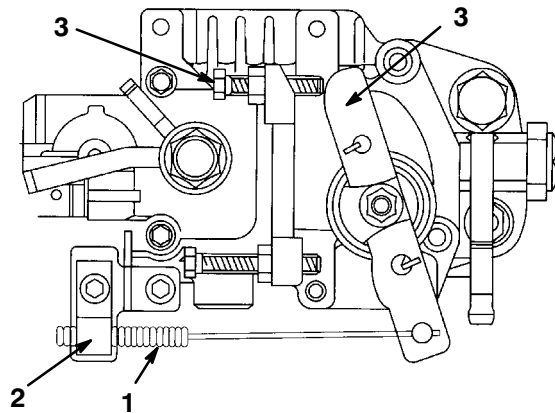

Figure 36
1. Move the remote throttle control lever to the SLOW position (Fig. 36).
2. Loosen the cable clamp screw securing the cable to the engine (Fig. 36).
3. Move the cable until the speed control lever contacts the idle speed screw (Fig. 36).
2. Loosen the lock nut on the idle speed screw (Fig. 36).